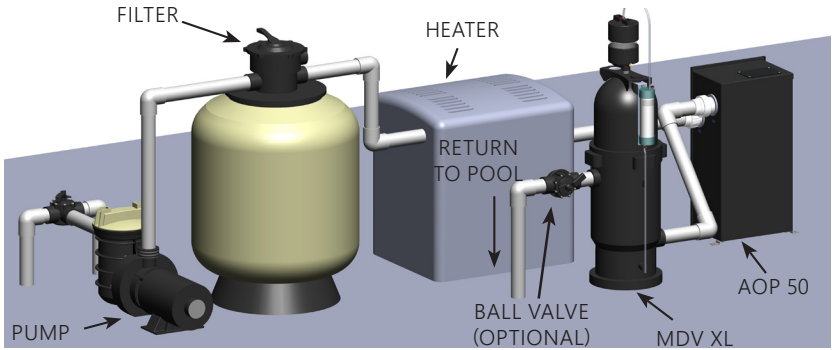
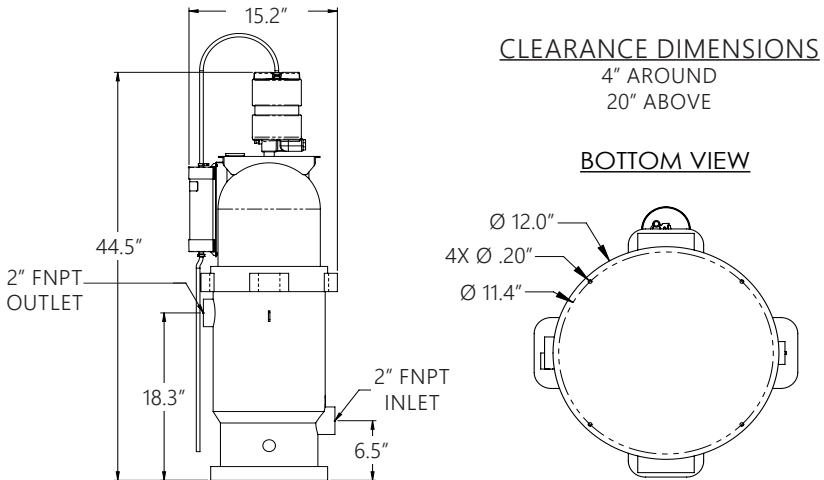

Figure 1: System View
Figure 3: Critical Dimensions
1. Plumb the MDV XL downstream of the AOP 50 as seen in **Figure 1**. The MDV XL's inlet and outlet fittings are 2" FNPT, use the correct fittings and thread sealant to plumb into the circulation loop. Refer to **Figure 3** for footprint and clearance dimensions before placing the MDV XL on your equipment pad.
7. If the MDV XL is located well above the water line, an additional ball valve may be needed to maintain an adequate water level in the Housing. Install the ball valve just after the MDV XL outlet as shown in **Figure 1**.